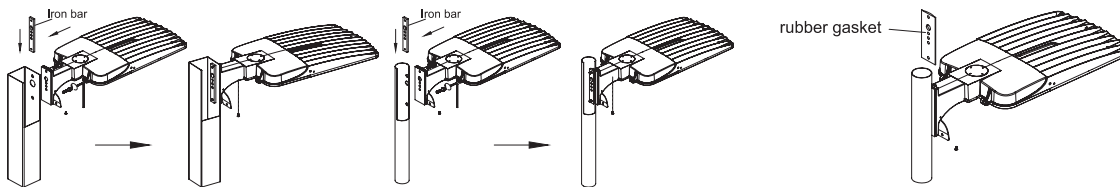

Figure 4
4. When installing to a square / round pole, align the holes of the PM bracket and pole. Pass the fixing screws through both holes. Place the iron bar inside of the pole to attach fixing screws. **ATTENTION:** When installing to a round pole, remove the rubber gasket as shown in Figure 4.